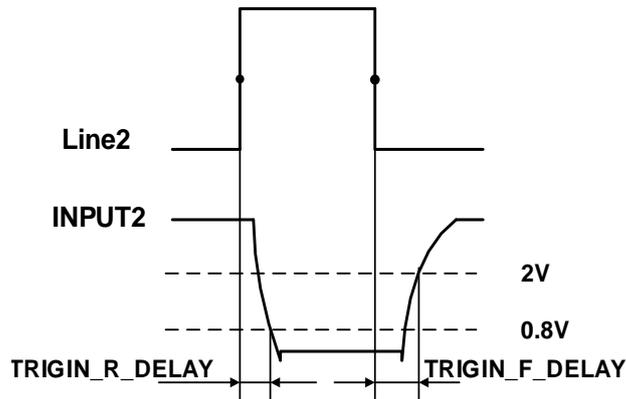

Figure 7-39 Parameter of Line2 input circuit
- Input rising time delay: <math><2\mu\text{s}</math> (0°C~45°C), parameter description as shown in Figure 7-39
- Input falling time delay: $<2\mu\text{s}$ ($0^{\circ}\text{C}\sim 45^{\circ}\text{C}$), parameter description as shown in Figure 7-39